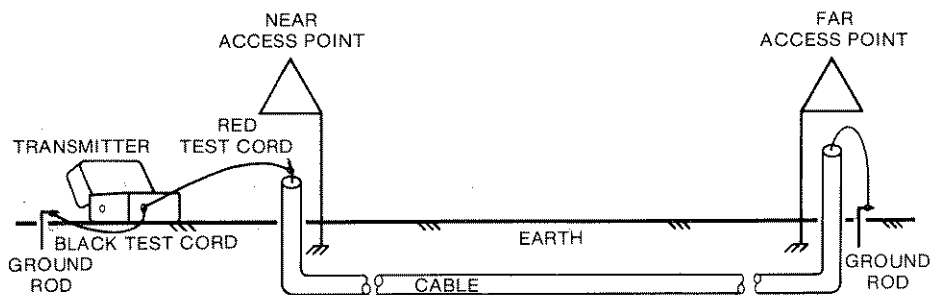

Figure 2-3.
4. Connect the black test cord clip to the ground rod (see Figure 2-3).
5. Plug the jack end of the red/black test cord into the RED/BLACK TEST CORD jack receptacle on the transmitter (see Figure 2-3).